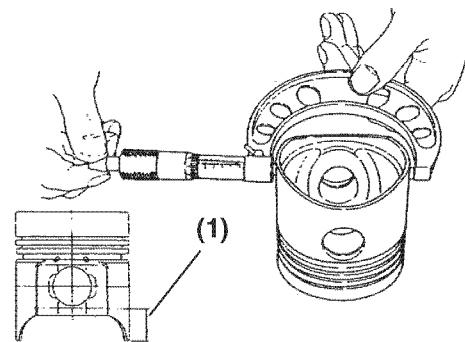

Figure 6-111
4. Measure the diameter of the piston skirt at 90° to the wrist pin bore as shown (**Figure 6-111**). Measurements must be taken at a specified distance (**Figure 6-111, (1)**) from the bottom of the piston, based on engine model. Record the measurements. See *Piston on page 6-16 for specifications*.